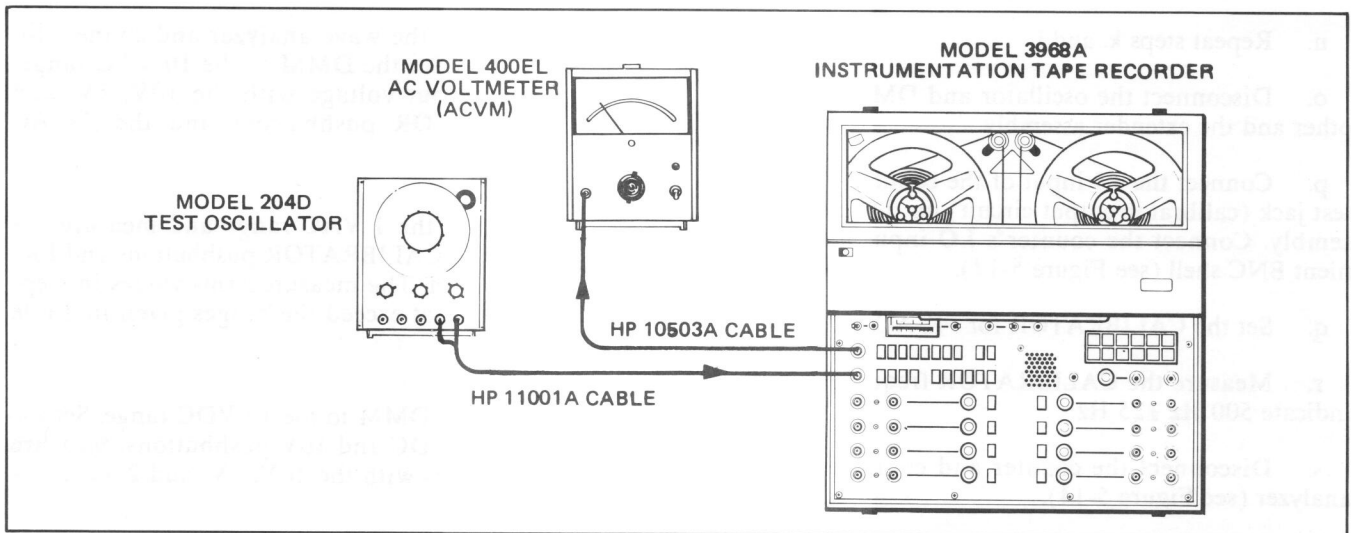

Figure 5-12. Direct Signal-To-Noise Test Setup
- f. Connect the test oscillator to the front panel EXTERNAL CAL INPUT jack. Set its frequency to 6400 Hz and its output to a convenient level (see Figure 5-12).